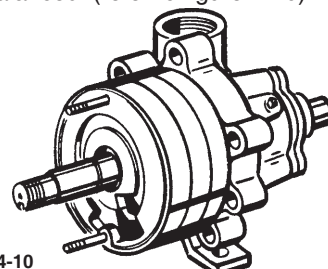

Figure 4-10
13. Make sure that the fins on the interstage bushing fit into the slots in the bore of the ring. Now slide on the next left hand channel ring with the water channel facing up. However, this time, place the inlet opening in the five o'clock position. By positioning each successive stage 180 degrees from the last, hydraulic loads are radially balanced. (refer to figure 4-10)